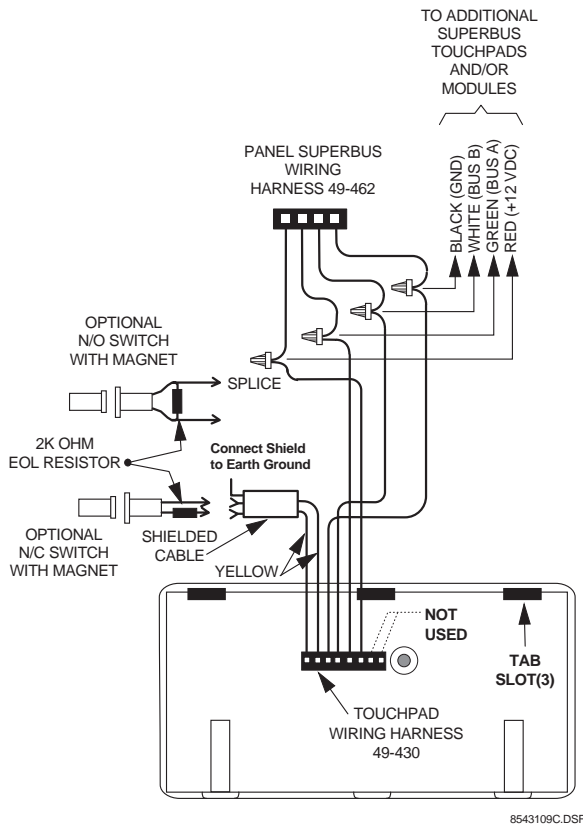

Figure 5. Wiring the Touchpad to Advent Panels
1. Splice the touchpad wiring to the panel SuperBus wiring harness as shown in Figure 5. Wire multiple touchpads in parallel.
2. If desired, connect an optional hardwire switch to the yellow wires on the touchpad wiring harness. Wire a 2K ohm EOL resistor (49-467) in series with normally closed switches and in parallel with normally open switches (see Figure 5).
3. Insert the touchpad wiring harness connector onto the pins located on the rear of the unit. Make sure the yellow wires are to the left (see Figure 5).